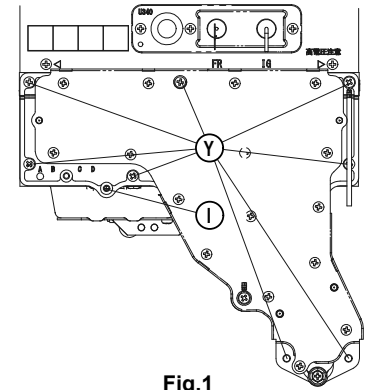
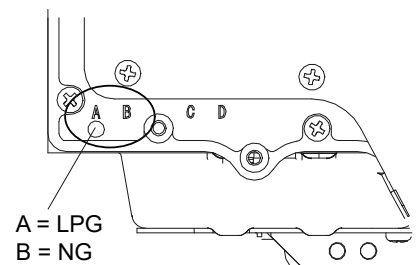

Fig.1
Fig.2
2. Disconnect the ignitor from manifold ("I" - Fig.1).
3. Replace the gas manifold with the new suitable component (the manifold is fastened by the screws indicated with "Y" - Fig.1). Manifold's gas type can be checked by the letter marked as in Fig.2.
Fig. 1 and Fig.2 illustrations are E2024W as representative